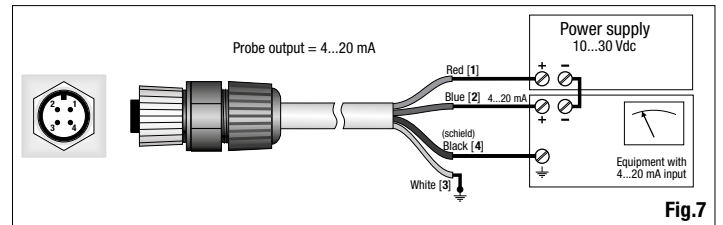

Fig.7
- LP PYRA 10 to be connected to an AC power supply and a multimeter as shown below (Figure 7), resistance load for reading the signal must be $\leq 500 \Omega$: